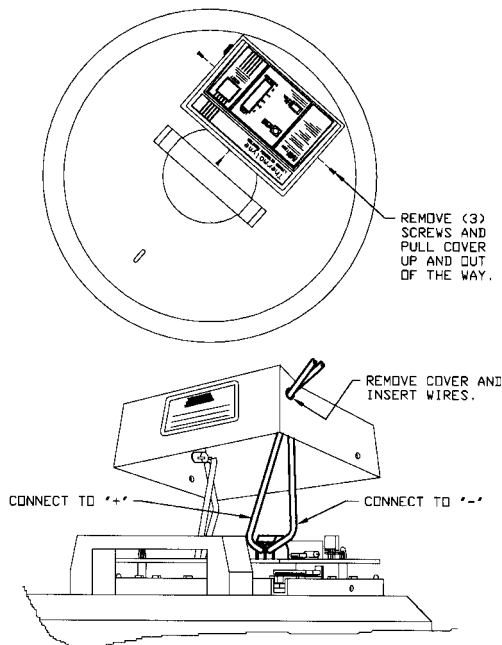

Figure 1
2. Remove the three screws securing the Liquid Nitrogen Level Monitor's cover. Pull the cover up and out of the way. (See Figure 1.)
The Liquid Nitrogen Level Monitor can be configured to present your alarm system with either a normally open contact or a normally closed contact. Which mode is currently operative depends on the placement of a single jumper on the circuit board. For a normally open contact, the jumper should be placed on J6. For a normally closed contact, the jumper should be placed on J4. (See Figure 1.) **Verify that the jumper is set appropriately for your remote alarm system.**
4. Connect the remote alarm wires as shown in Figures 1, 2 and 3.